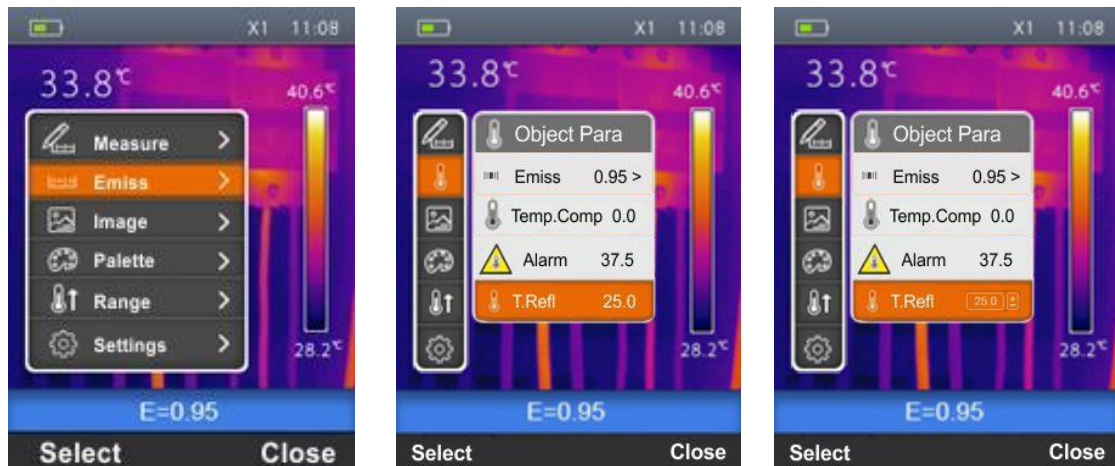

Fig. 21: Setting the Reflected Temperature on the instrument
1. Select the item "T. Refl." using the keys $\oplus$ or $\ominus$ and press the key "Select". The screen Fig. 21 – Central part is shown on the display